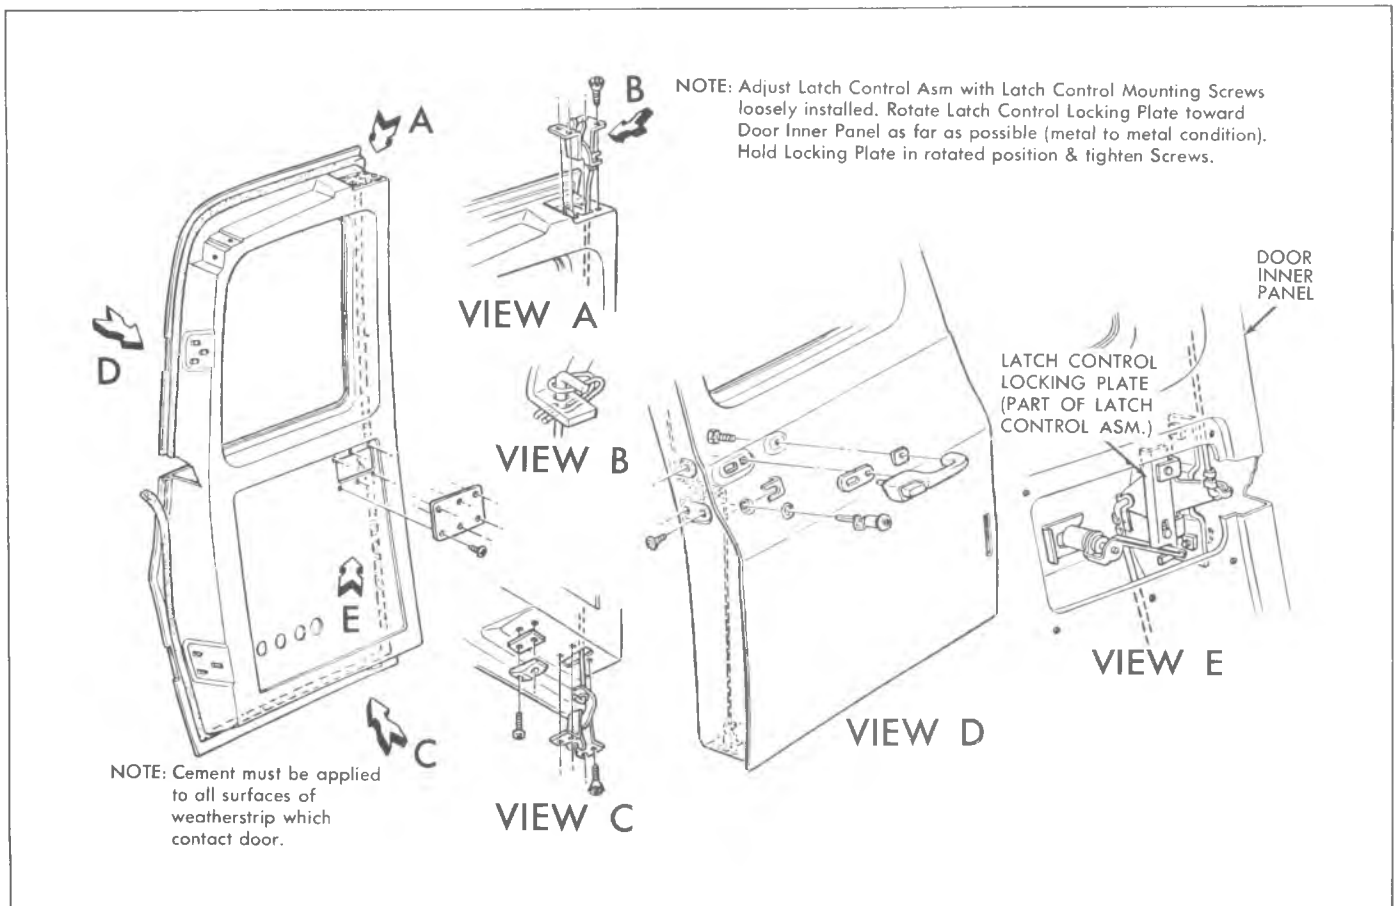

Fig. 46—Rear Doors
Rear Doors Latch & Controls (Fig. 46)
3. Reinstall latch, connect rods and adjust as shown in Figure 46.